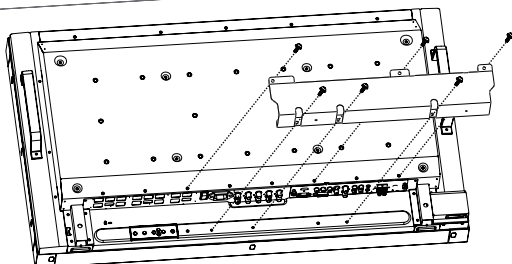

Figure 5
- Use six of the M4 x 10 screws (included) to attach the cable cover (Figure 5).